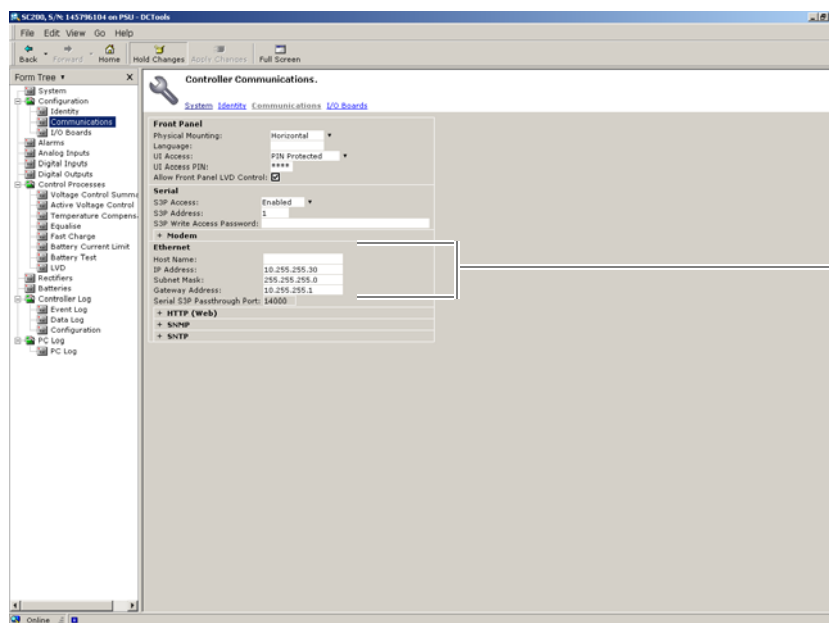

Figure 11.39 "DCTools" application – "Ethernet" area
16. In the *Form Tree* area of the application window, navigate to the level *Configuration > Communications*, refer to Figure 11.39: